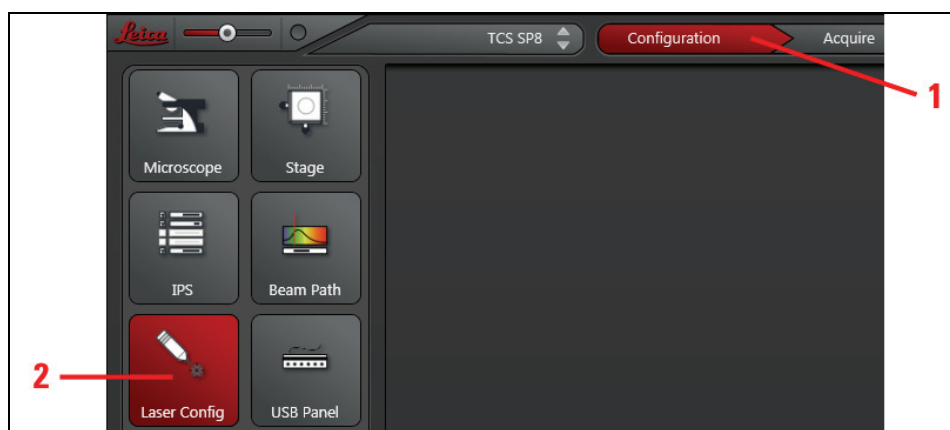
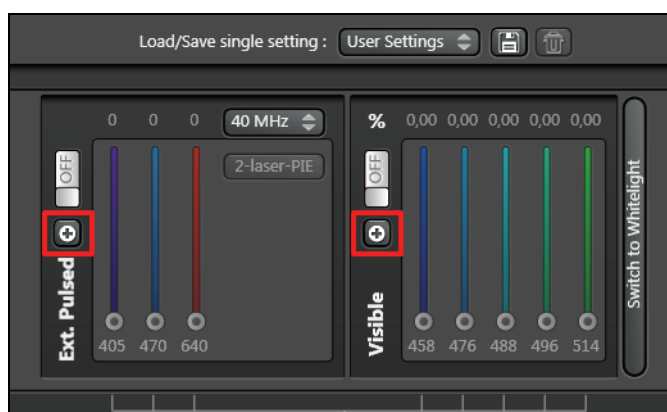
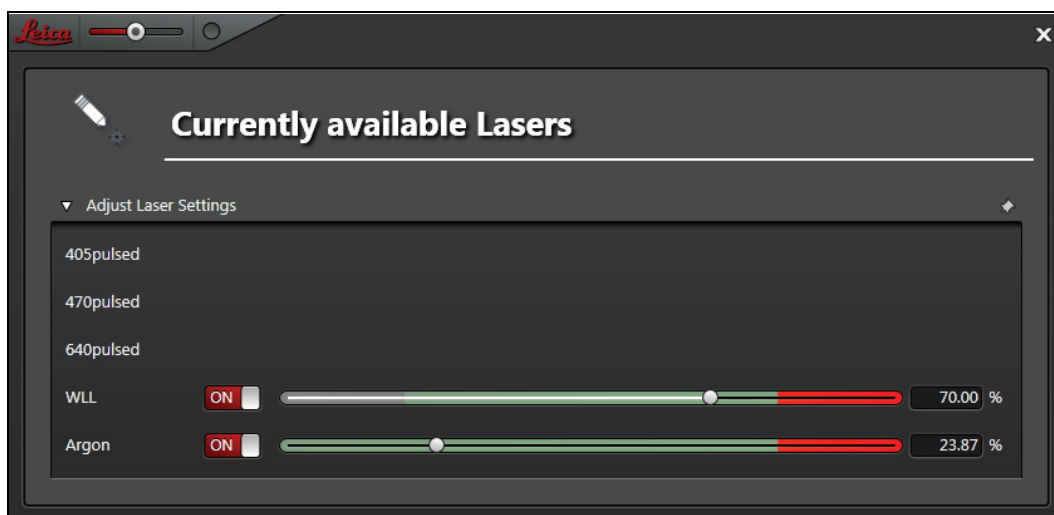

Figure 94: LAS AF configuration window
Figure 95: Button to open a laser configuration window
Figure 96: Activate laser in the LAS AF laser configuration window
2. Select the **Laser Config** button (**Figure 94**) and enable the desired laser with the allocated check box (**Figure 96**).
3. You can also query the laser configuration window from a single Wizard. Click on the **+** button in the laser dialog in the **Beam Path Settings** (**Figure 95**). The corresponding laser configuration window (**Figure 96**) opens.